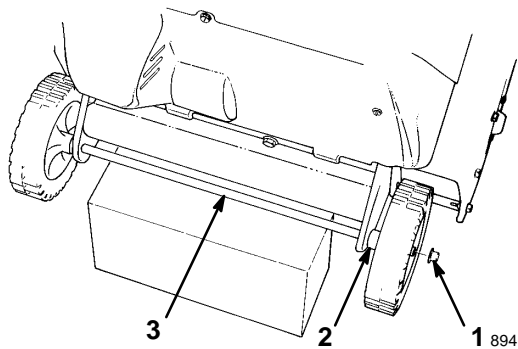

Figure 2
1. Place a wood block under the wheel axle for support (Fig. 2).
2. Slide a spacer and wheel onto the axle. Ensure that the side of the wheel with six spokes faces the center of the axle. Slide a pushnut onto the end of the axle (Fig. 2).